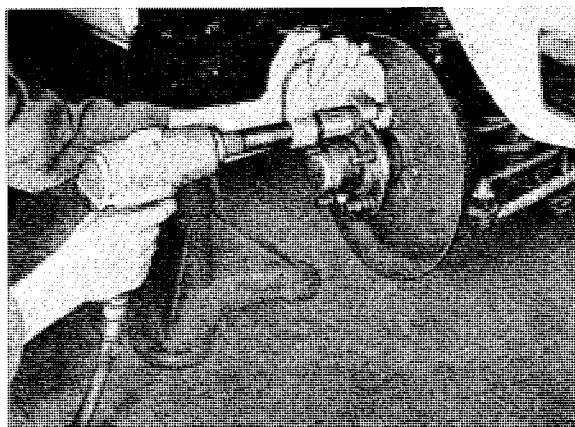

Fig. 7-28. Installing wheel stud
6. Place the tool in position (see Fig. 7-28) and use a nut runner to screw in the stud completely.